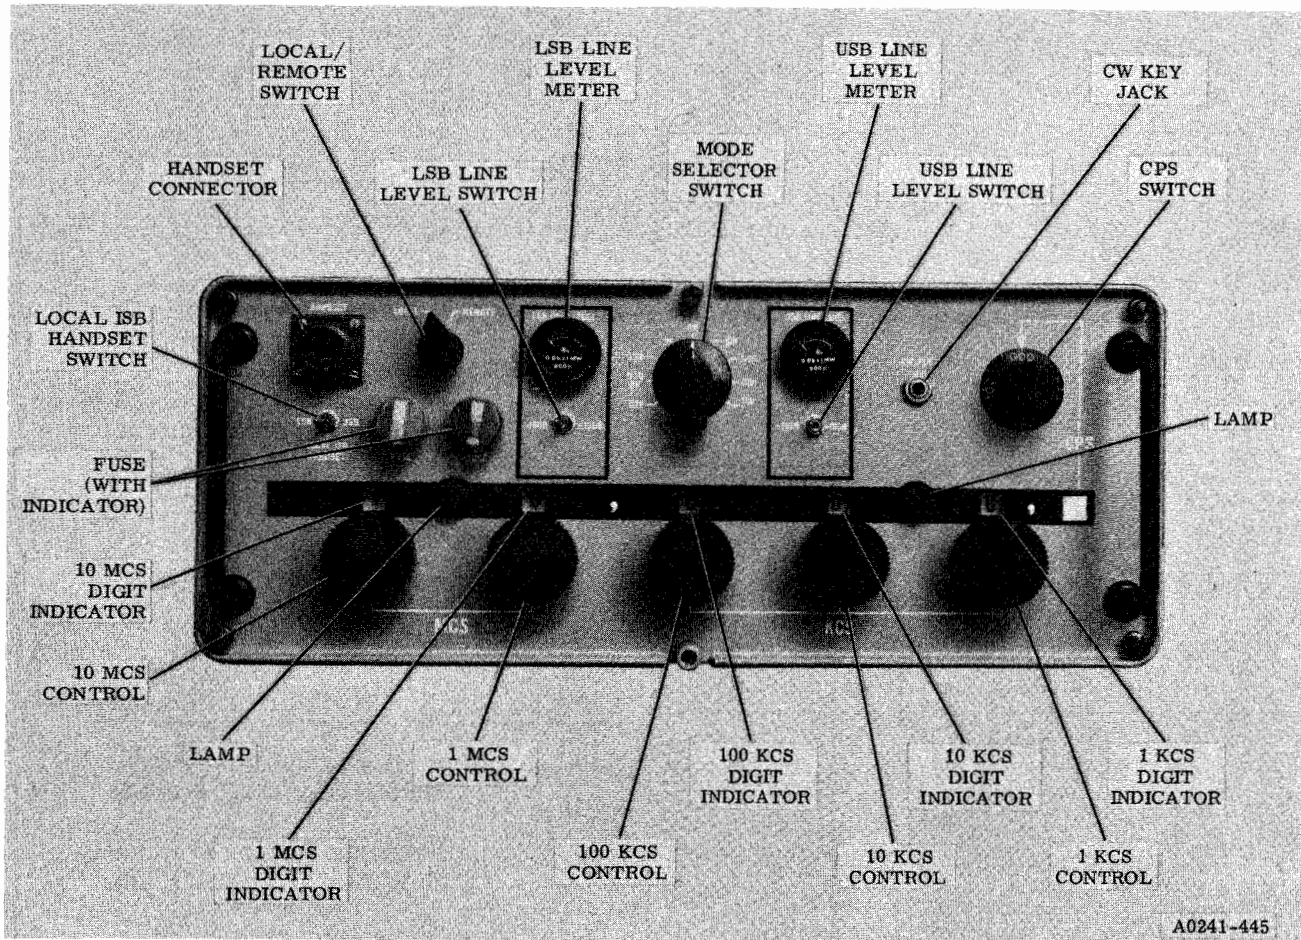

Figure 2-1. Radio Transmitter T-827D/URT, Operating Controls, Indicators and Connectors
a. DESCRIPTION OF OPERATING CONTROLS, INDICATORS, AND CONNECTORS. - All controls, indicators, and connectors required for normal operation of the AN/URT-24 are located on the front panels of the T-827D/URT and the AM-3007/URT. Tables 2-1 and 2-2 list the operating controls, indicators, and connectors with their functions and the associated reference designation. Figure 2-1 illustrates and locates the operating